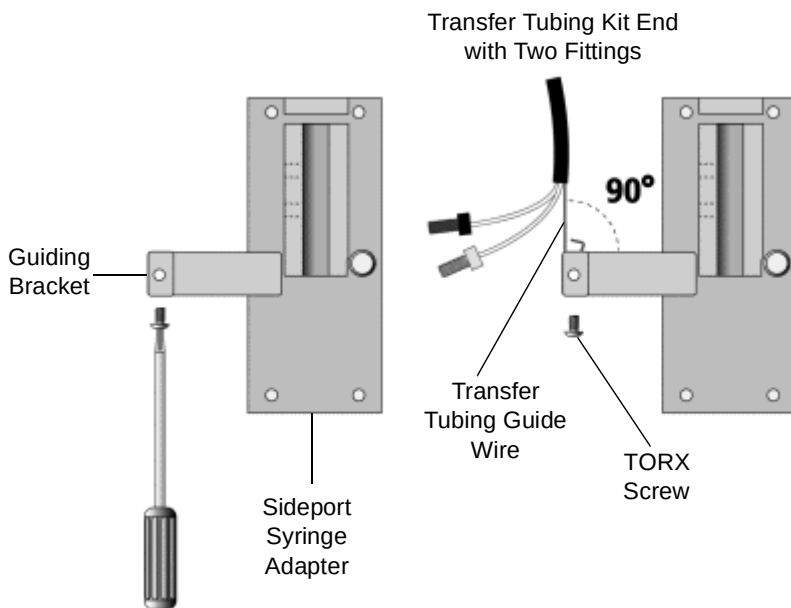

Figure 2-29 Attaching the Transfer Tubing Kit to the Sideport Syringe Adapter
6. Open the TORX screw at the guiding bracket of the sideport syringe adapter (Figure 2-29).
9. Adjust the guiding wire in a 90° angle to the bracket and tighten the TORX screw firmly (Figure 2-29).